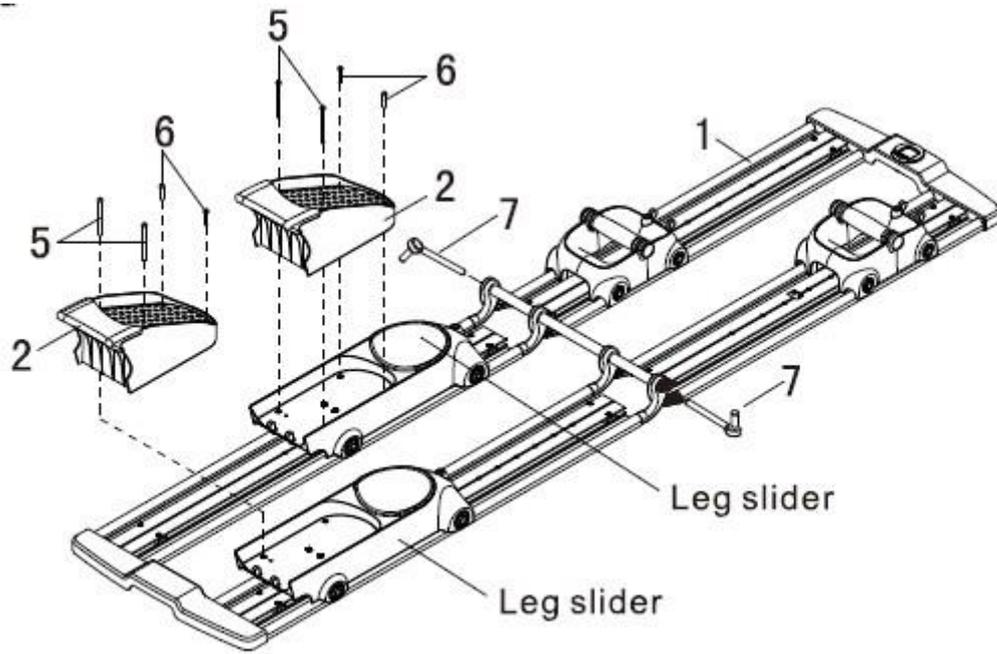

Fig.5
Step 1. Install the pedals (2) into the base of the frame(1) (see Fig.5)
1. Put the frame (1) on a level surface
2. Fasten the pedals (2) into the leg sliders by using 4 M6X85mm button head bolts mm (5) and 4 M6X35mm button head screws (6).